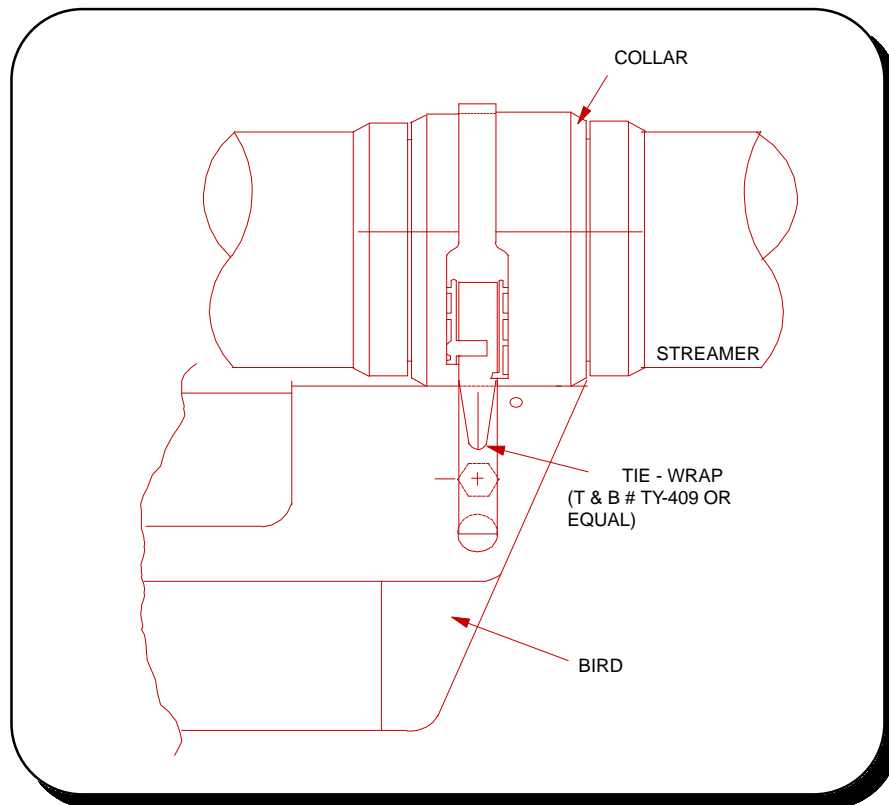

Figure 3.6. Safety strap.
- A plastic tie wrap: the reusable strap shown in the figure is manufactured by Thomas & Betts, and is 1/2 in (12.7mm) wide by 18 in (450mm) long. See Figure 3.6.